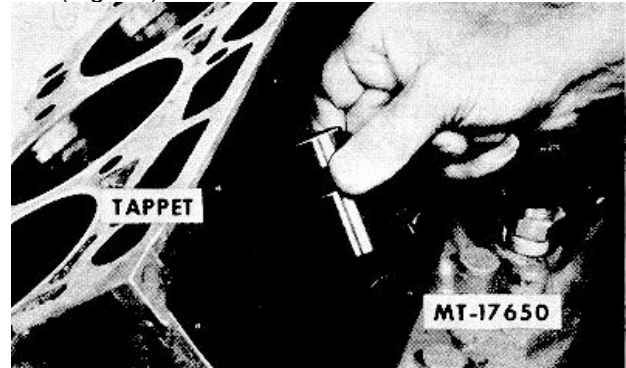

Fig. 32 Tappet Removal Through Cover Openings
35. Removes tappets through tappet cover opening (Fig. 32).